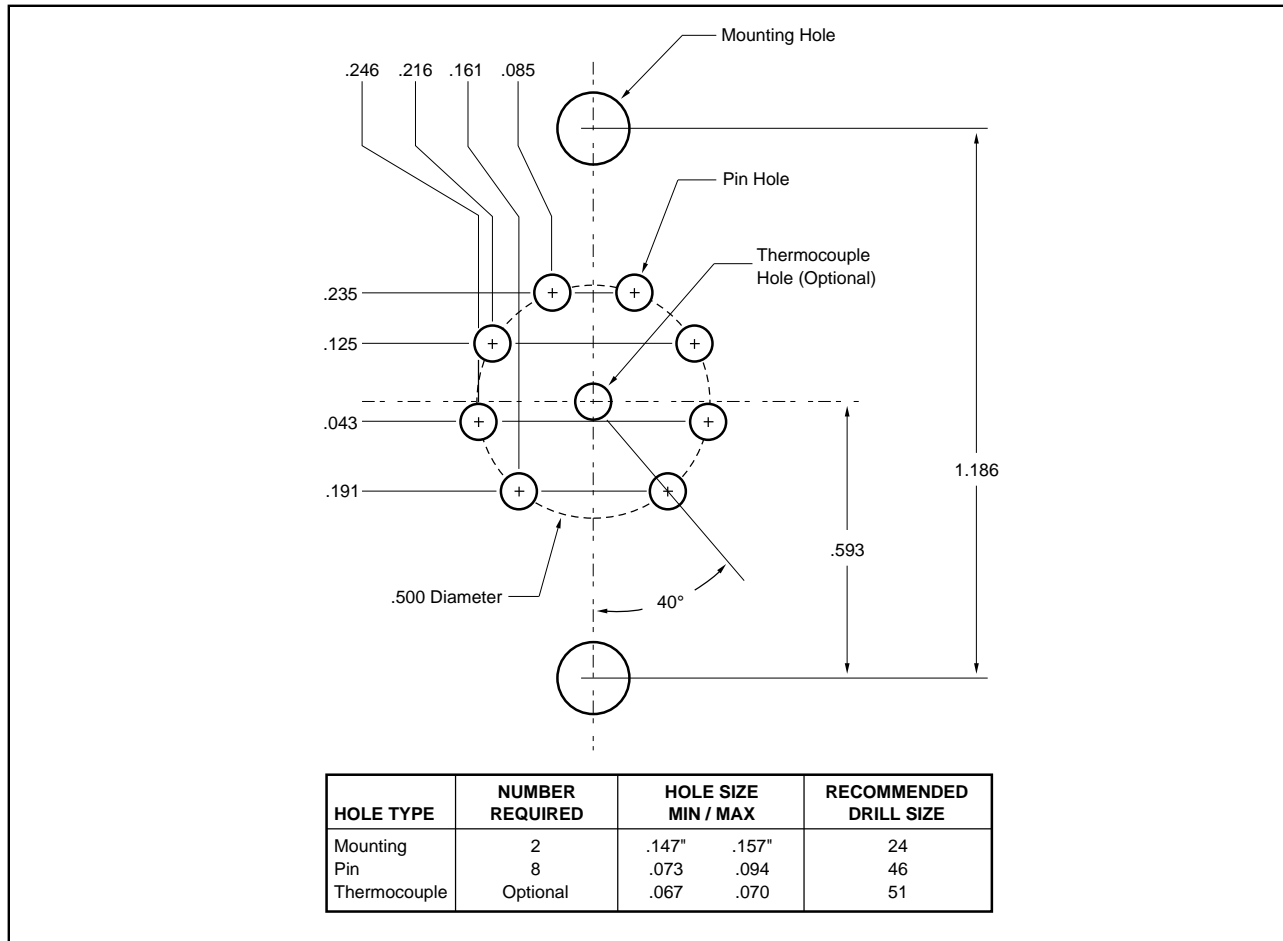
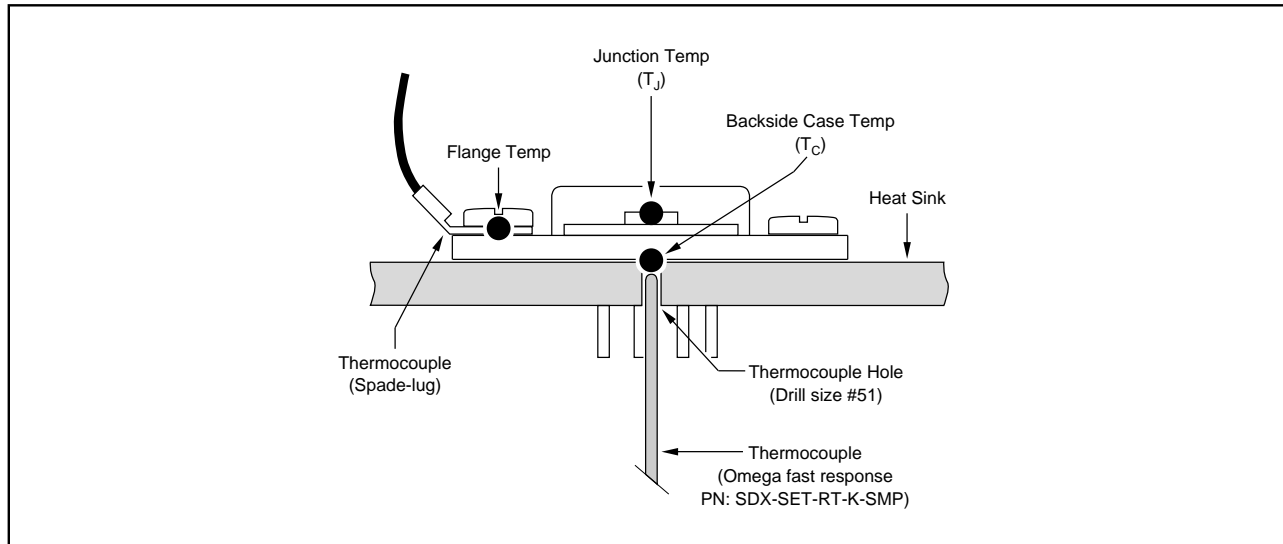

FIGURE 2. TO-3 Hole Pattern.
FIGURE 5. Package Case Thermal Measurement.
A good mounting joint between the TO-3 package and the heat sink requires a properly machined mounting hole pattern. Never drill out a single (large diameter) clearance hole for the package pins. Drill individual holes for each pin. Follow the TO-3 hole pattern illustrated in Figure 2. For best thermal performance, use a minimum hole size of 0.073 inch (#49 drill). Smaller holes could interfere with the glass seal around each pin.
For functional testing and no-load characterization at room temperature, heat sinking may not be required. These mounting schemes are the least critical and easiest to fabricate. When using the 0804MC socket, the socket can be mounted directly to the test box or PC board by drilling a single clearance hole for all eight socket contacts. The hole should be (0.63 - 0.75) inches in diameter. Be careful not to short the copper cladding or metal box to any of the contacts. The socket body should be mounted using flat head machine screws. For electrical insulation, nylon flat head machine screws may be used instead. When using cage jacks, follow the TO-3 hole pattern illustrated in Figure 2. Use close ended cage jacks whenever possible to avoid solder contamination.
The true case temperature is located directly below the substrate and centered within the package pins (see Figure 5). This location, called the case backside, will also give the most repeatable measurements. To directly access the case backside, drill the heat sink with the optional thermocouple hole(7) as illustrated in Figure 2. The recommended thermocouple is